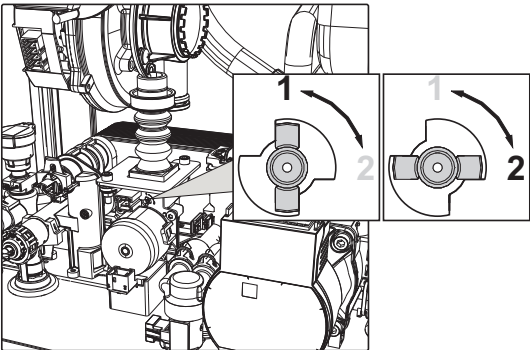

fig. 35
- 3. Turn the Throttle (fig. 35) according to the position indicated in table 7.